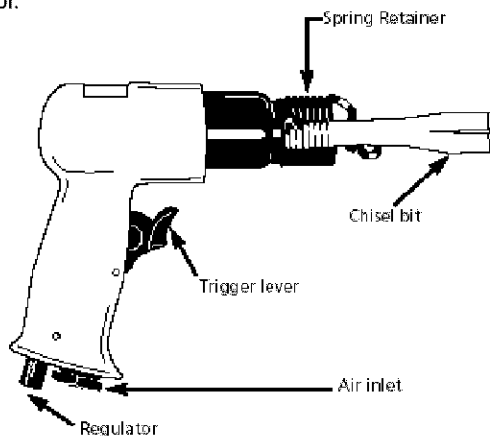

Figure 2 - Tool Diagram
In the event that it becomes necessary to store the tool for an extended period of time (overnight, weekend, etc.), it should receive a generous amount of lubrication through the air inlet (fig 2). The tool should be run for approximately 30 seconds to ensure oil has been evenly distributed throughout the tool. The tool should be stored in a clean and dry environment.
**Recommended lubricants:** Use air tool oil or any other high grade turbine oil containing moisture absorbent, rust inhibitors, metal wetting agents and an EP (extreme pressure) additive. (See Fig. 2 for location/air inlet).